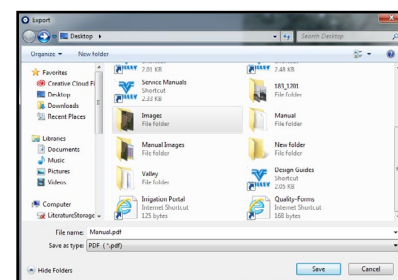

Figure 32-3
3. Locate the folder in which you want to store the PDF file, and click **Save**. See Figure 32-3.